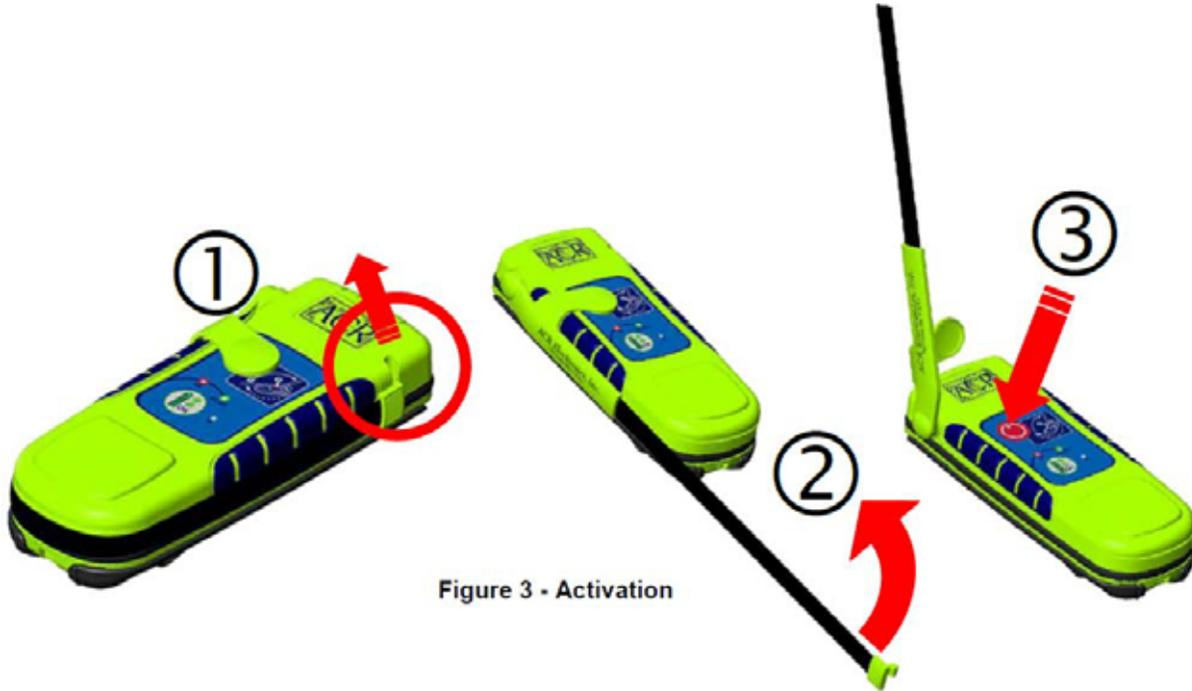

Figure 3 - Activation
- 2) Move it into the upright position (see figure 3 below).
For maximum performance you must deploy the beacon antenna into the proper position (see figure 3). If at all possible, be sure the antenna is positioned facing the sky and avoid submerging in water. This device is intended to operate on or above the ground or while attached to your person **above the water line**.